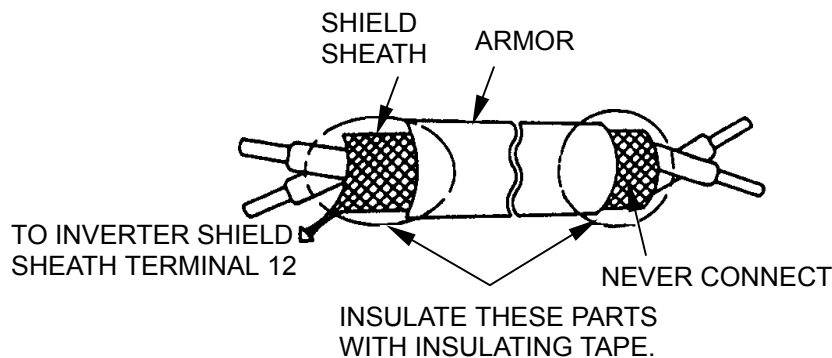

Fig. 4 Shielded Wire Termination
- (1) Separation of control circuit leads and main circuit leads: All signal leads must be separated from main circuit leads L1(R), L2(S), L3(T), B1/⊕, B2, ⊖, ⊕1, ⊕, ⊕2, ⊕3, T1(U), T2(V), T3(W) and other power cables to prevent erroneous operation caused by noise interference.
- (2) Control circuit leads 9, 10, 18, 19, 20 (contact output) must be separated from leads 1 to 8, 11 to 17, 21, 22 and 25 to 27.
- (3) Use twisted shielded or twisted pair shielded wire for the control circuit line and connect the shield sheath to the inverter terminal 12 to prevent malfunction caused by noise. See Fig.4. Wiring distance should be less than 164ft (50m).